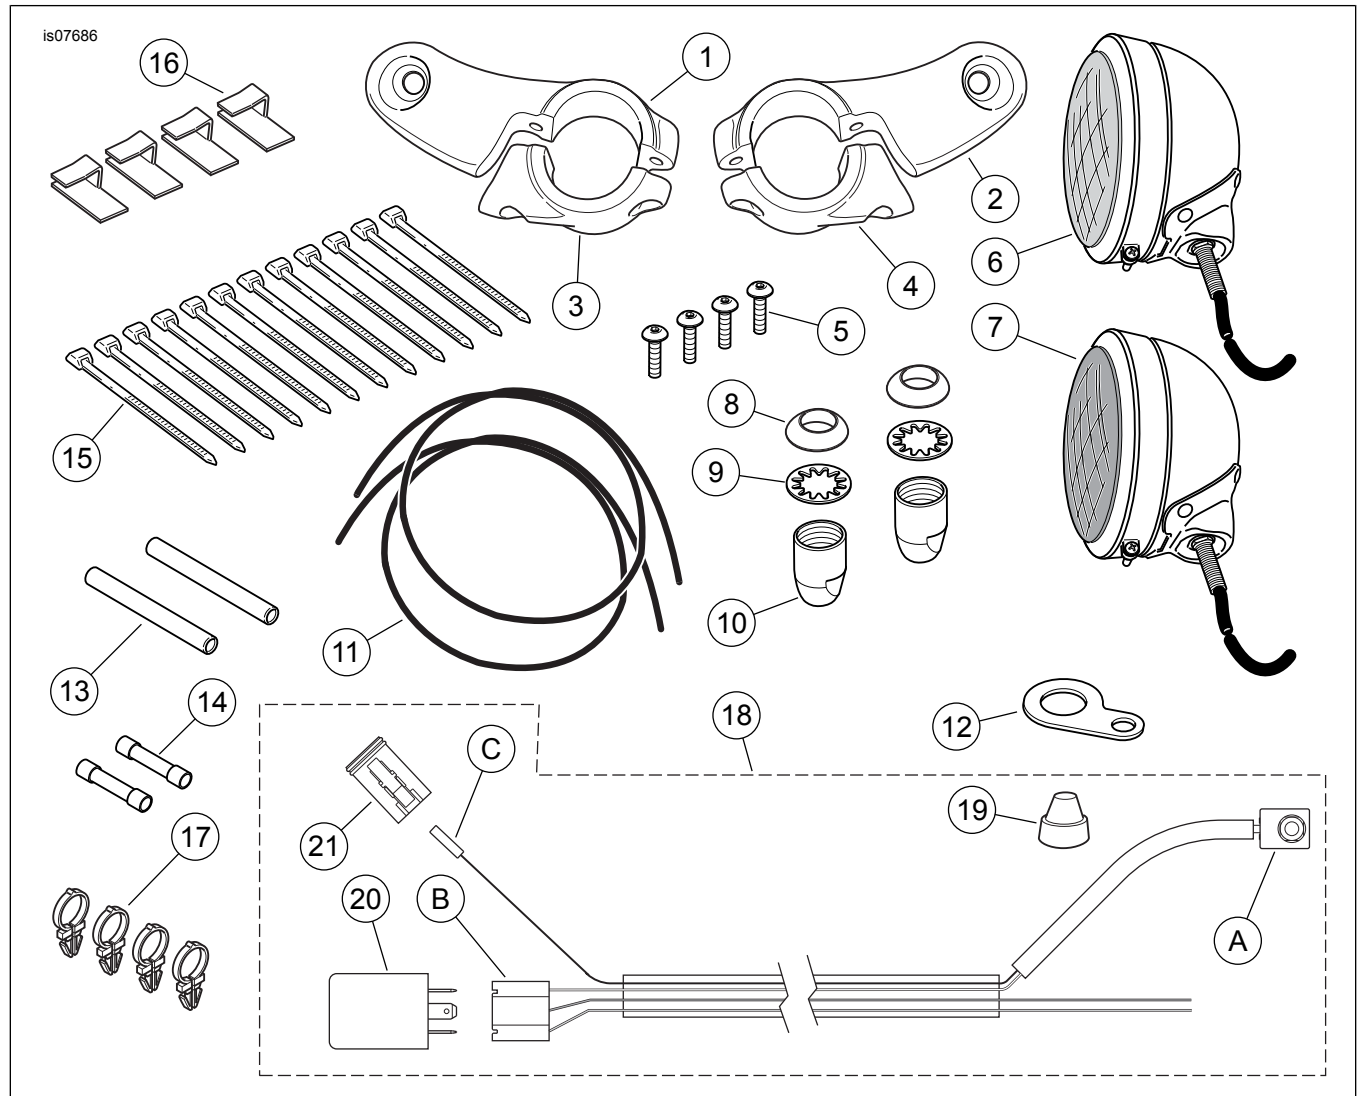

Figure 5. Service Parts, Police Emergency Lamp Kit
See Figure 5 and Table 1.
5. See Figure 5. Install the wiring harness (18). Place the flasher (20) in the opening beneath the fuel tank, and route the long leg of the harness forward along the frame backbone inside the plastic wire caddy.
11. Secure the lamp switch leg of the harness to the handlebar with the **new** wire harness retainers (Figure 5, Item 17) as needed. Snap the retainers into the holes in the handlebar.
18. Slide the heat shrink tubing (1) away from the splice. Use the radiant heating device to heat the crimped sealed splice connectors (3). Apply heat from the center of the crimp out to each end until the meltable sealant exudes out of both ends of the connector. Let the connector cool.
19. Slide the heat shrink tubing (1) over the splice. Use the radiant heating device, heat the heat shrink tubing to encapsulate the sealed splice connection. Apply heat from the center of the crimp out to each end.
20. See Figure 5. Secure the wires to the lower fork steering bracket using adhesive backed clips (16) from the kit.